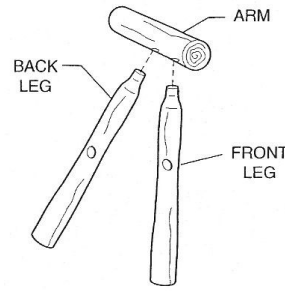

figure 2
STEP 2 Put ARMS onto legs by inserting dowel ends of front and back legs into holes in arms. (NOTE: Position of the hole on back leg is lower than hole on front leg.) Drive arm onto leg assembly as far as possible, stopping where taper begins. The drilled holes on each Leg should face the same direction as shown in figure 2.